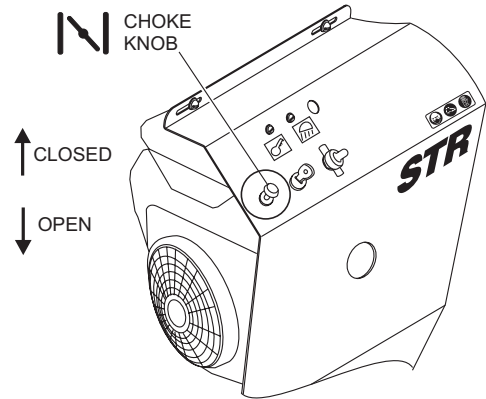

Figure 9. Choke Knob
5. When starting a cold engine, pull the choke knob, if so equipped, (Figure 9) out to the **closed** position. In warm weather or when the engine is warm, the unit can be started with choke halfway or completely **open**.